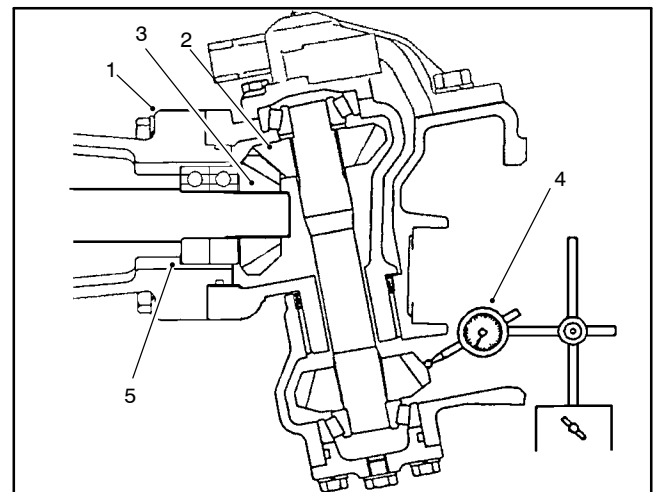

Figure 19
7. Temporarily install the bevel gear case/axle case assembly on the axle support. Position a dial indicator at the tooth's center. Prevent the axle from turning and measure the upper bevel gear to differential shaft gear backlash (Fig. 19).